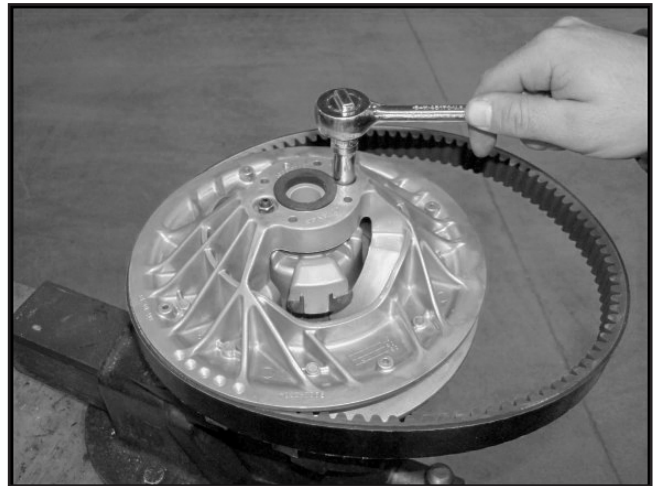

Figure 7-4 Loosen jam nuts.
2. Loosen both jam nuts located on the fixed face of the clutch. Figure 7-4.